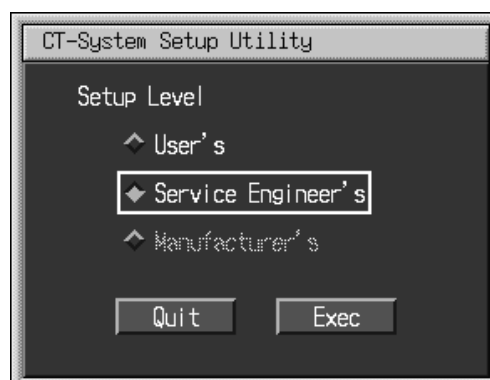

Figure 6.2.3-9
- (12) Click [Quit] in the interactive window shown in figure 6.2.3-9.